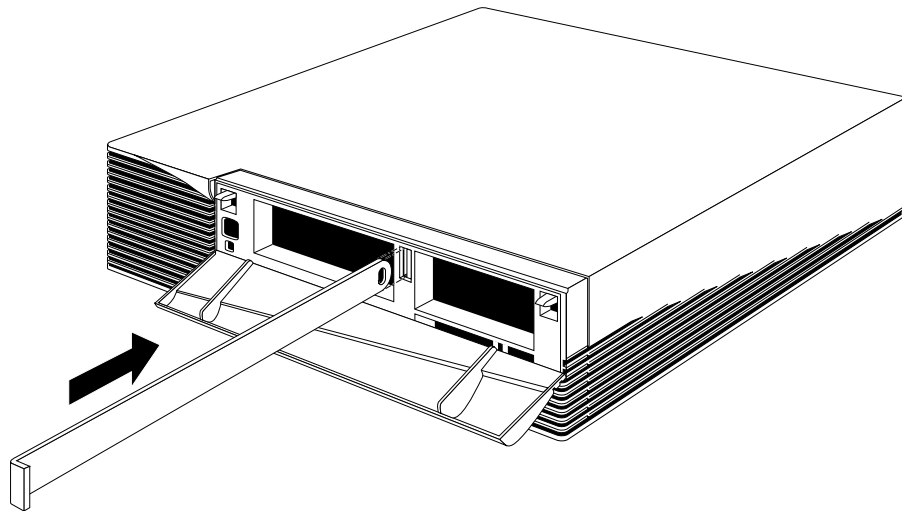

Figure 2-41 Installing the Lockbar
2. Place the straight end of the lockbar into the opening between the disk drive slots in the front of the chassis, and push the lockbar all the way through the workstation, as shown in Figure 2-41.